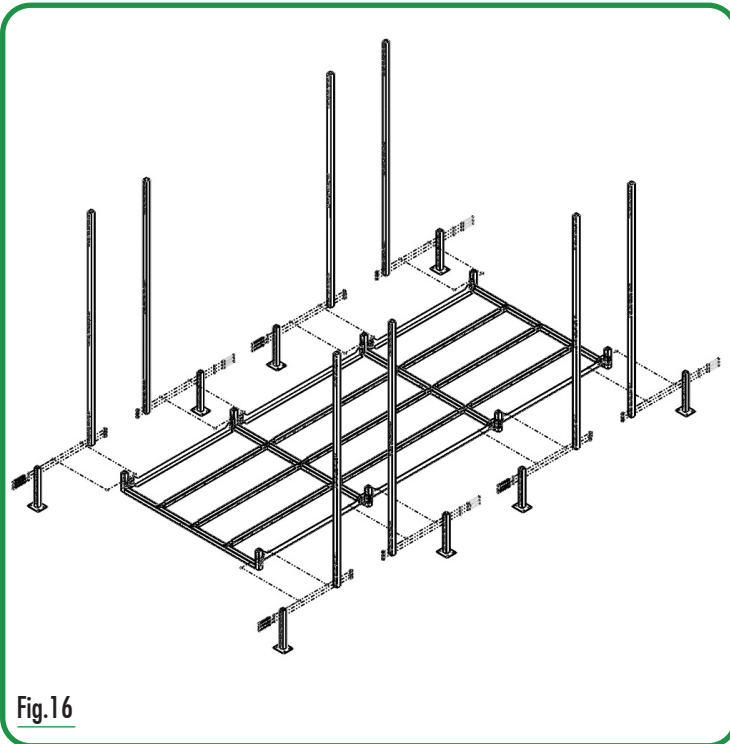
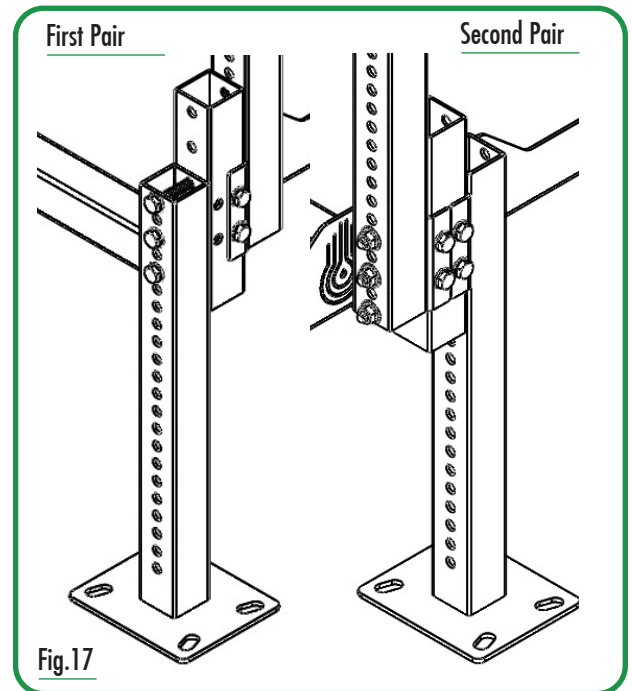

Fig. 16
Fig. 17
4.2 Fasten with 3 screws in pass-through holes 1, 3 and 5 the first pair of legs on the external side of the first welded crossbar of the start frame (Fig. 16) as shown in (Fig. 17)
4.3 Fasten with 3 screws in pass-through holes 2, 4 and 6 the second pair of legs on the external side of the second welded crossbar of the module frame (Fig. 16) as shown in (Fig. 17)
4.4 Fasten with 3 screws in pass-through holes 3, 5 and 7 the third pair of legs on the external side of the third welded crossbar of the modular frame (Fig. 16) as shown in (Fig. 17)